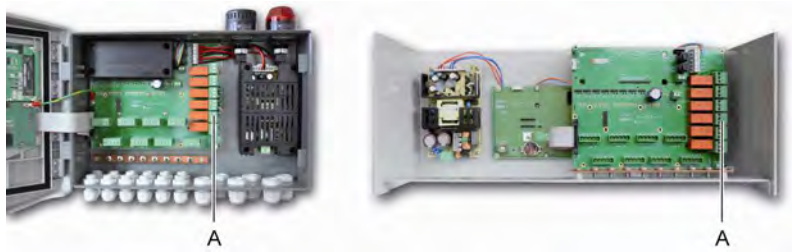

Figure 31: Internal alarm relay connectors (A).
The RCT dry contacts (nominal resistive load of 2 A at 250 VAC, and 2 A 30 V DC) of the 6 internal relays R1, R2, R3, R4, R5 and Default are deployed on the backplane board of MX43 on the R1, R2, R3, R4, R5 and Default connectors (Figure 31: Internal alarm relay connectors (A)).